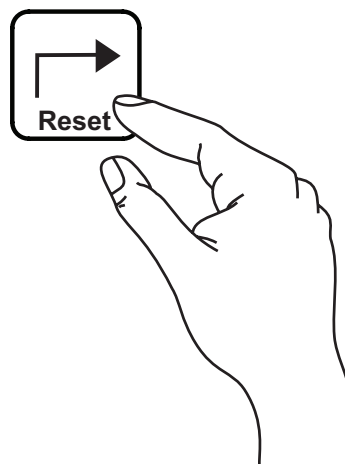

Figure 91. Reset Button
7. The diagnostic mode will remain active until the **Reset** button (Figure 91) is pressed or if the engine rpm becomes greater than zero.